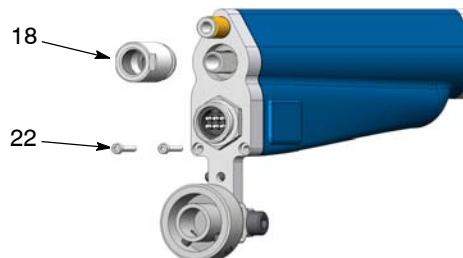

Figure 23 Removing Heat Sink Screws and Lock Nut
6. See Figure 23. Remove the two screws (22) with a 2.5 mm hex wrench, then unscrew the lock nut (18).
6. See Figure 23. Screw the lock nut (18) onto the powder tubing channel and tighten it securely. Do not overtighten it or you will strip the plastic threads on the powder tubing channel.
7. Install the two socket-head screws (22) in the heat sink and tighten them securely.